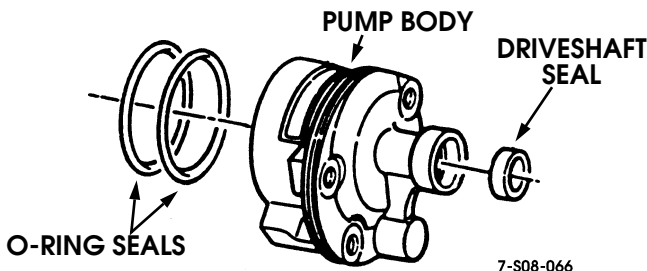

Figure 8-77: Seal Removal
22. Remove two O-ring seals from pump body. Discard O-ring seals (Figure 8-77).